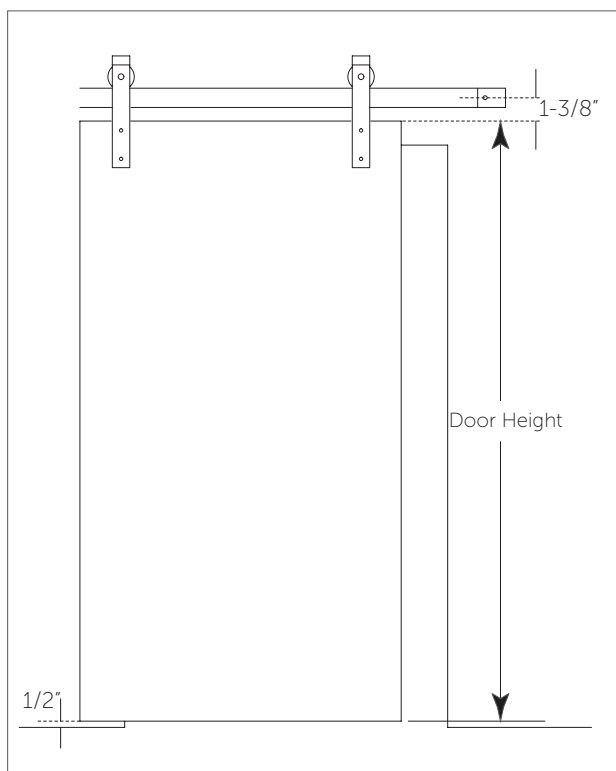

Figure 1
1. To determine where the track should be installed, first measure the height of the door, then add $1-7/8"$ to the door length. $1/2"$ will be for the clearance between the bottom edge of the door and the floor. $1-3/8"$ will be from the top edge of the door to the center of the track. (Figure 1).